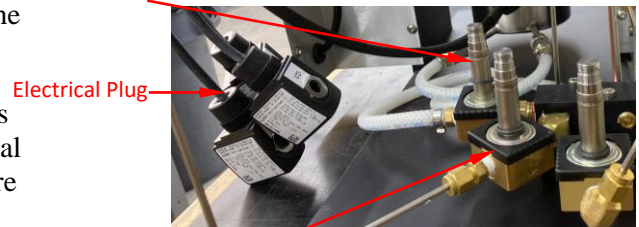

Figure 10
- f. Place each electrical plug onto the valve stem with its corresponding number. For example, the Q2 electrical plug should be placed onto the Q2 valve stem. Secure them using a 9/16" wrench. See Figures 10 and 3.